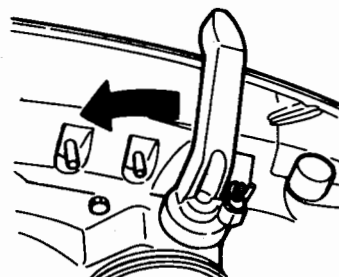

Fig. 12-1 Setting the shift lever at the REVERSE position
- 2) Take care that the spring pin (3φx10mm) for connecting the clutch cam with the cam rod does not fly out from the circumference of the clutch cam. (Fig. 12-1)
(Fig. 12-1) Clutch cam